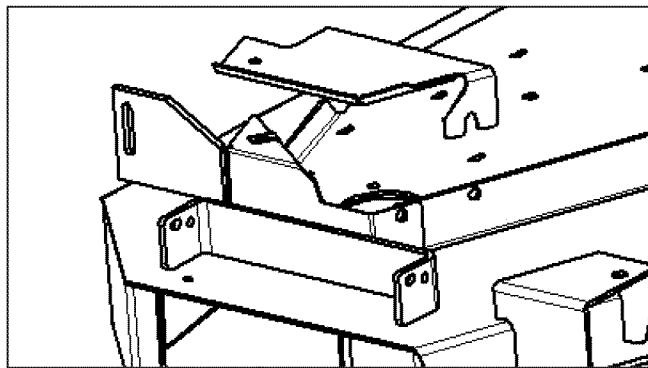

Figure 25. Install Guard - IS2000Z with 52" Deck
*NOTE: The IS2000Z with 52" deck has a 2-piece deck guard. Install as shown in Figure 25.*